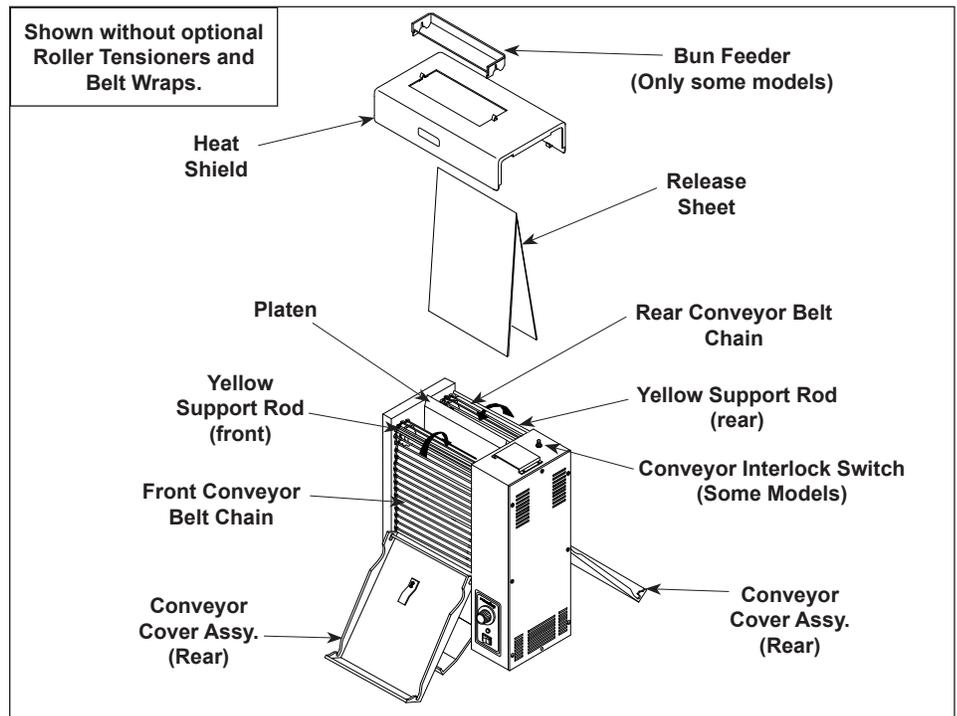
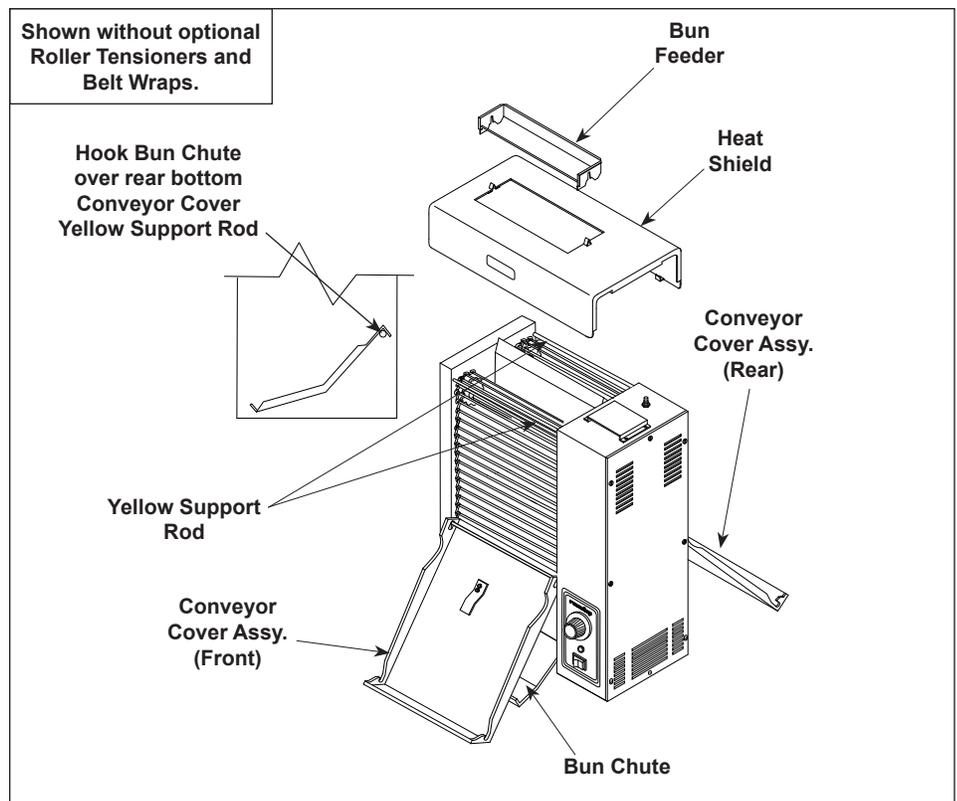

Figure 1. Toaster and Accessories
Figure 2. Installing Bun Chute
- Bun Feeder (Figure 1)
- Bun Chute (Figure 2)
- Two Release Sheets (Figure 1)
NOTE: The factory has pre-installed a Release Sheet over the Platen (Figure 1). Verify that it is properly in place before proceeding.
1. Install the Bun Feeder (Figure 1) and Bun Chute (Figure 2).
2. Put on heat resistant gloves. Remove the Bun Feeder, Heat Shield, and Bun Chute (Figure 1).
2. Remove the Bun Feeder, Butter Wheel, Pan, and Heat Shield (Figure 1) and set the Bun Thickness Compression Knobs to 6 & 6 or 6 & F.